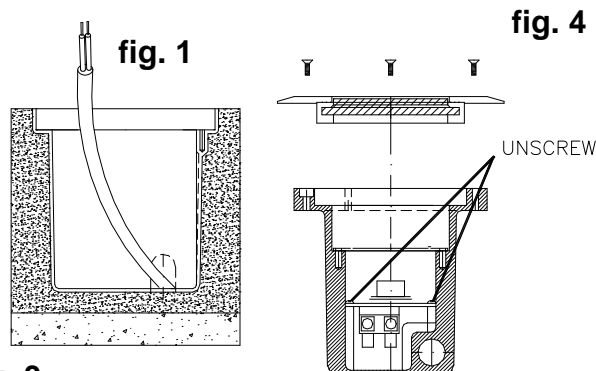

fig. 3
- INSERIRE IL CAVO TRIPOLARE NEL PRESSACAVO (FIG.3).
- (BILD3) IN DER KABELDURCHGANGSKLEMMEN DIE DREILEITERKABEL EINSETZEN. VERKABELN, DANN ELEKTRIFIZIERUNGSPLETTE WIEDER EINSTELLEN UND DIE KABELDURCHGANGSKLEMMEN FESTMACHEN.
- INSERT THE THREEPOLAR CABLE INTO THE CABLE GLAND (FIG.3)
INSTALLER LE COFFRAGE EN L'ENCASTRANT DANS LE SOL (FIG.1) OUVRIER L'APPAREIL ET ENLEVER LE SUPPORT DE LA DOUILLE ET LA PLAQUE DE RACCORDEMENT EN DÉVISSANT LES VIS (FIG.2) INTRODUIRE LE CÂBLE TRIPOLAIRE DANS LE SERRE-CÂBLE. (FIG.3) PROCÉDER AU CÂBLAGE, REMONTER LA PLAQUE DE RACCORDEMENT ÉLECTRIQUE ET BLOQUER LE SERRE-CÂBLE. VISSER L'APPAREIL AU COFFRAGE À L'AIDE DES VIS FOURNIES ET FIXER L'AMPOULE, PUIS REFERMER L'APPAREIL (FIG. 4)